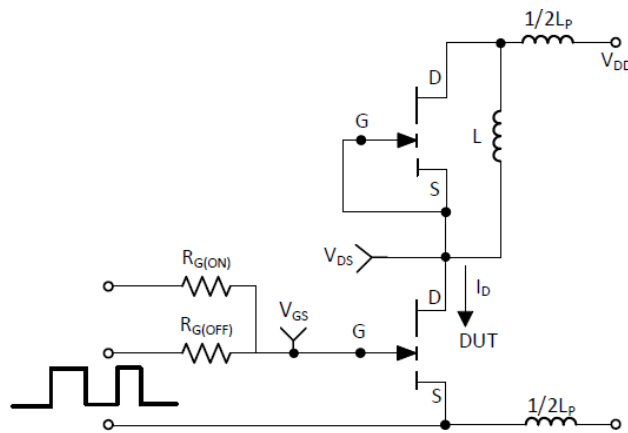

Figure 18: Switching Loss Test Circuit
(7) L_p = parasitic inductance
(8) See Figure 18 for switching test circuit